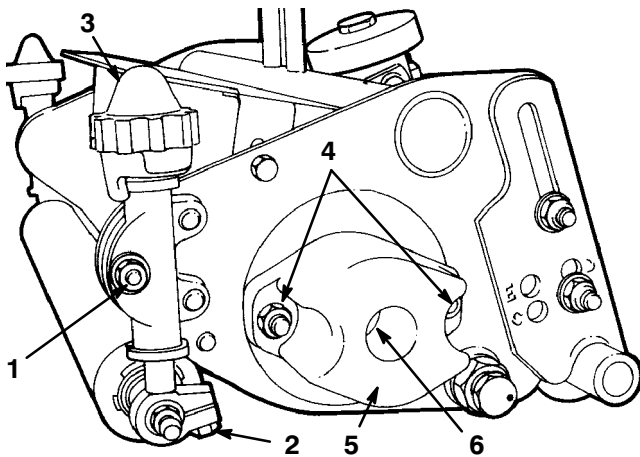

Figure 17
1. Loosen the locknuts securing the height-of-cut adjusting rods at both ends of the cutting unit and the roller shaft clamp bolts (Fig. 17).
2. Turn the height-of-cut adjustment knobs until they are disconnected from the height-of-cut adjusting rods (Fig. 17). The knobs are captivated on the upper washer face of the height-of-cut clamp.
2. The reel bearing drag should be from 5 to 9 in.-lb. (Fig. 17). This can be measured with a torque wrench.
- A. Remove the mounting nuts from the counterbalance end cap and remove the end cap from the mounting studs (Fig. 17).
- C. With the wrench mounted, hold the reel and tighten the large reel bearing adjustment nut (Fig. 17). Tighten it until the drag on the reel meets the 5 to 9 in.-lb. specification.
1. Remove the counterbalance end cap (Fig. 17).
2. Remove the large bearing adjustment nut from one end of the reel shaft (Fig. 17) and the special spline nut at the opposite end of the reel shaft.